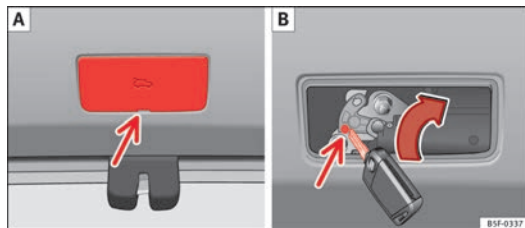

Fig. 59 Luggage compartment: access to manual release.
- Remove the lid through the groove with a screwdriver ⇒ Fig. 59 A.
- Insert the key into the opening and turn it in the direction of the arrow until the latch ⇒ Fig. 59 B has been released. ■